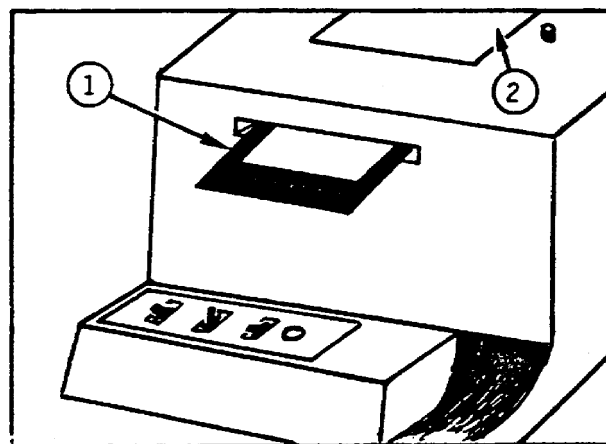

Figure 1-11. Filter Compartment and Holder.
h. Filter Compartment and Holder (fig 1-11). 1 - filter holder slides in and out of the filter compartment easily, allowing insertion of filter without disturbing copy or opal view glass 2 . The use of filters for color correction will be dealt with later in the course.